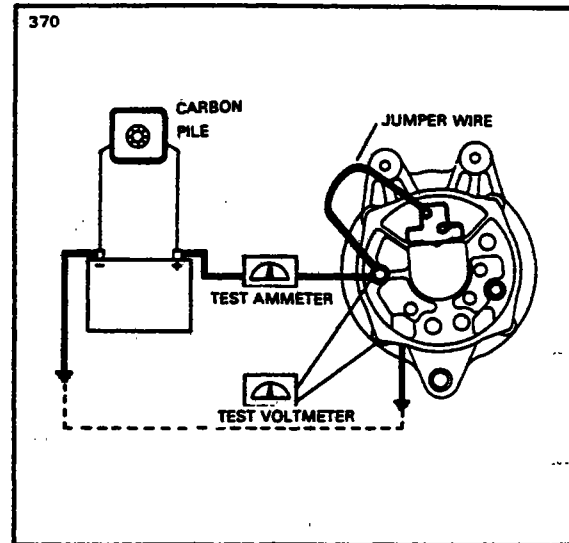

Figure 11-82. Testing Alternator
a. Wiring connections for bench testing the alternator are shown in Figure 11-82. Refer to the individual specification pages for output test figures. Adjust the carbon pile if necessary, to obtain the specified voltage.